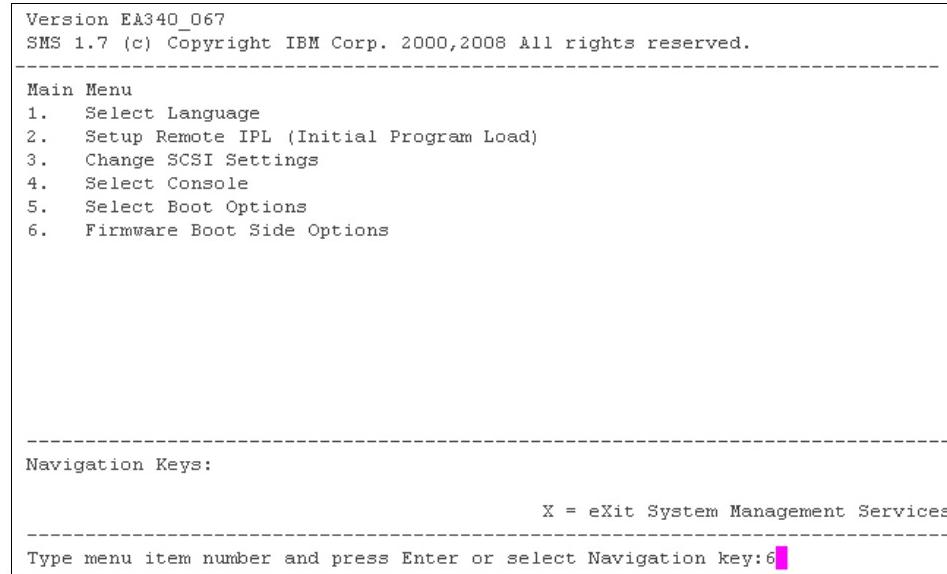

Figure 12-5 SMS main menu
2. Select **6 (Firmware Boot Side Options)**. As shown in Figure 12-5 on page 467.